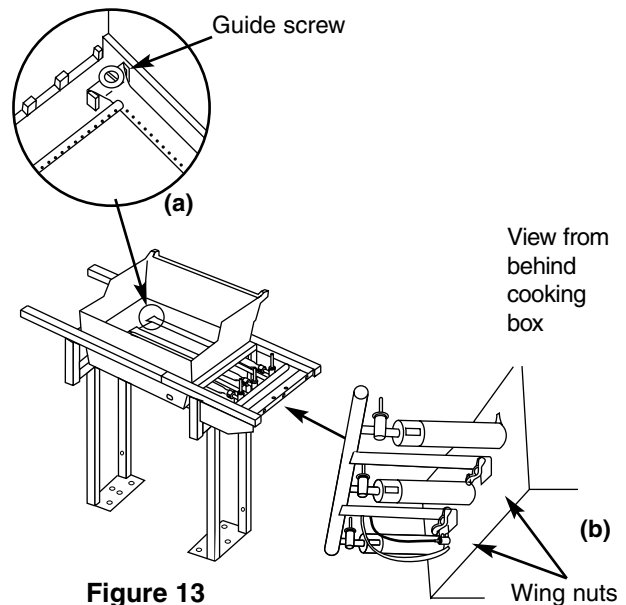

Figure 13
- Are the ends of the burners under the washers at the left rear and left front of the cooking box? The screws are only guides. Do not tighten. Figure 13 (a).
- Are the wing nuts under the burner assembly hand tight? Do not tighten with pliers. Figure 13 (b).